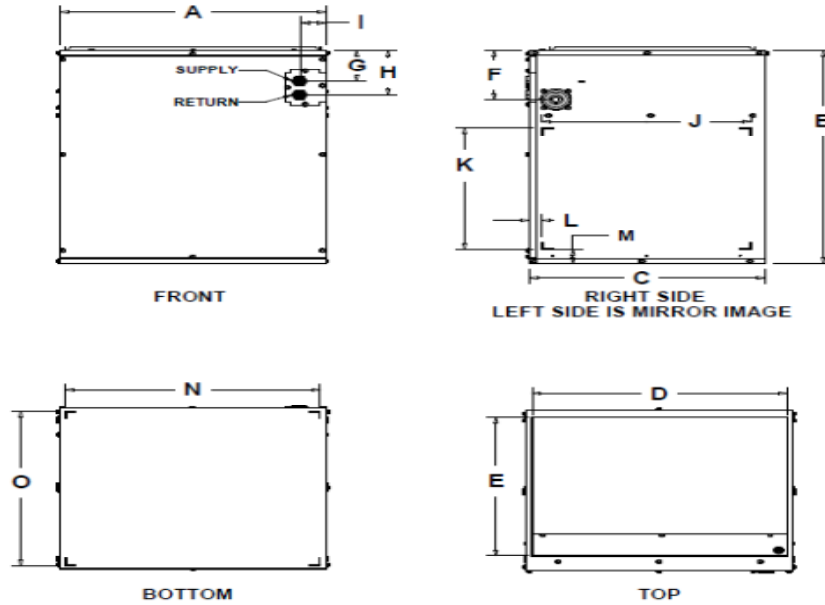

Figure 1: DIMENSIONAL DATA MODULAR HYDRONIC HEAT
1. Refer to the unit rating plate for the air handler model number, and then see the dimensions page of this instruction for return air plenum dimensions in Figure 1. The plenum must be installed according to the above listed codes or the instructions in this manual.